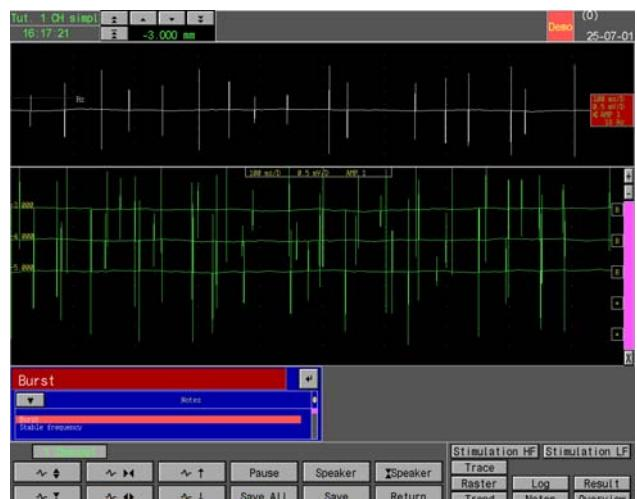

Figure 51 "Burst" Shown in the Edit Box below the Raster Window
Having selected the test, the window setup for Tutorial 1 appears, see Fig. 51 below:
- If the Notes Window is absent, display the Notes Window by clicking **Notes** in the lower-right corner of the screen, and the Notes Window appears, see Figure 51 above.
- To select a predefined note, click ▾ situated to the left in the Notes Window to go through the notes one by one, see Figure 51 below.
- Move the pointer to the wanted note, for example "Burst": click on it to select it, and the note will be shown in the edit box just above the Notes Window, see Figure 51 above.